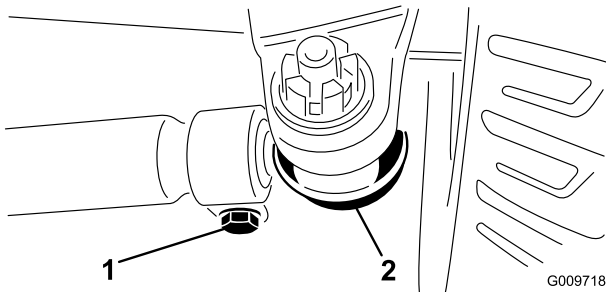

Figure 71
2. To adjust, remove the cotter pin and nut from either tie rod ball joint. Remove tie rod ball joint from axle case support (Figure 71).
3. Loosen the clamps at both ends of the tie rods (Figure 71).